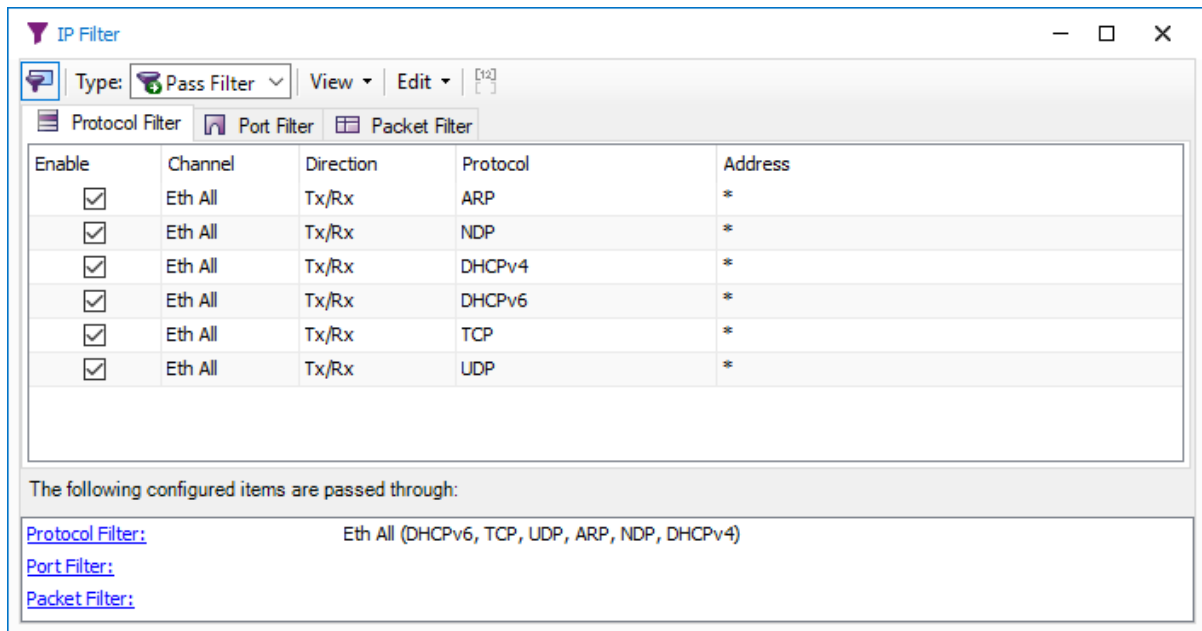

Figure 12: Helpful IP Filter settings for DoIP
2. After the Channel Filter, add an Event Filter (IP) and add the settings shown in Figure 12. This will limit the trace content to MAC Address information about the participants both for IPv4 and IPv6 (ARP, NDP), address assignment information if IP addresses are assigned via an DHCP server (DHCPv4 and DHCPv6) and the IP basic protocols for the transport layer (TCP and UDP).